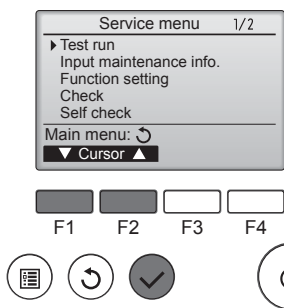

Fig. 6-3
③ Select "Test run" with the [F1] or [F2] button, and press the [✓] button. (Fig. 6-3)